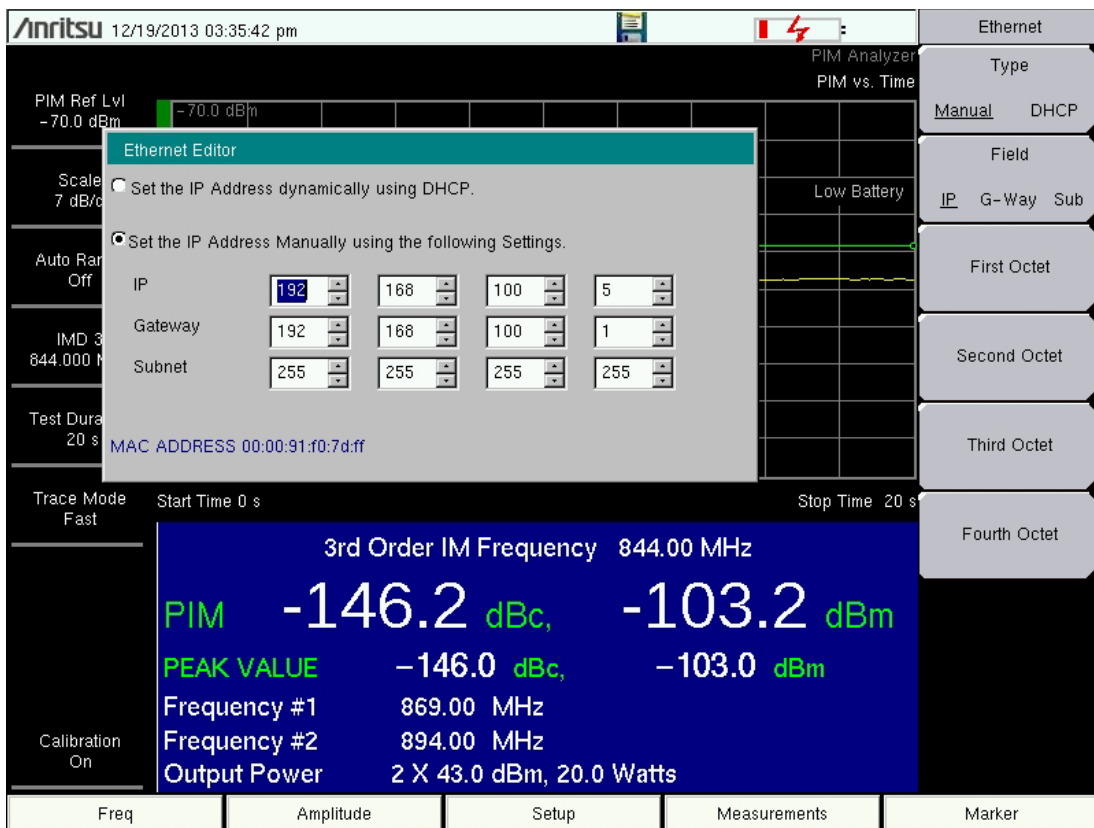

Figure C-3. Example of Entering Ethernet IP Address
1. Press **Shift** and **System (8)** to display the System Menu.
3. Configure the Ethernet connection. The example IP address is 192.168.100.5 in Figure C-3.
Figure C-3 is an example of the Ethernet Editor. Your information may differ. For example, 255.255.255.0 should be the subnet mask.